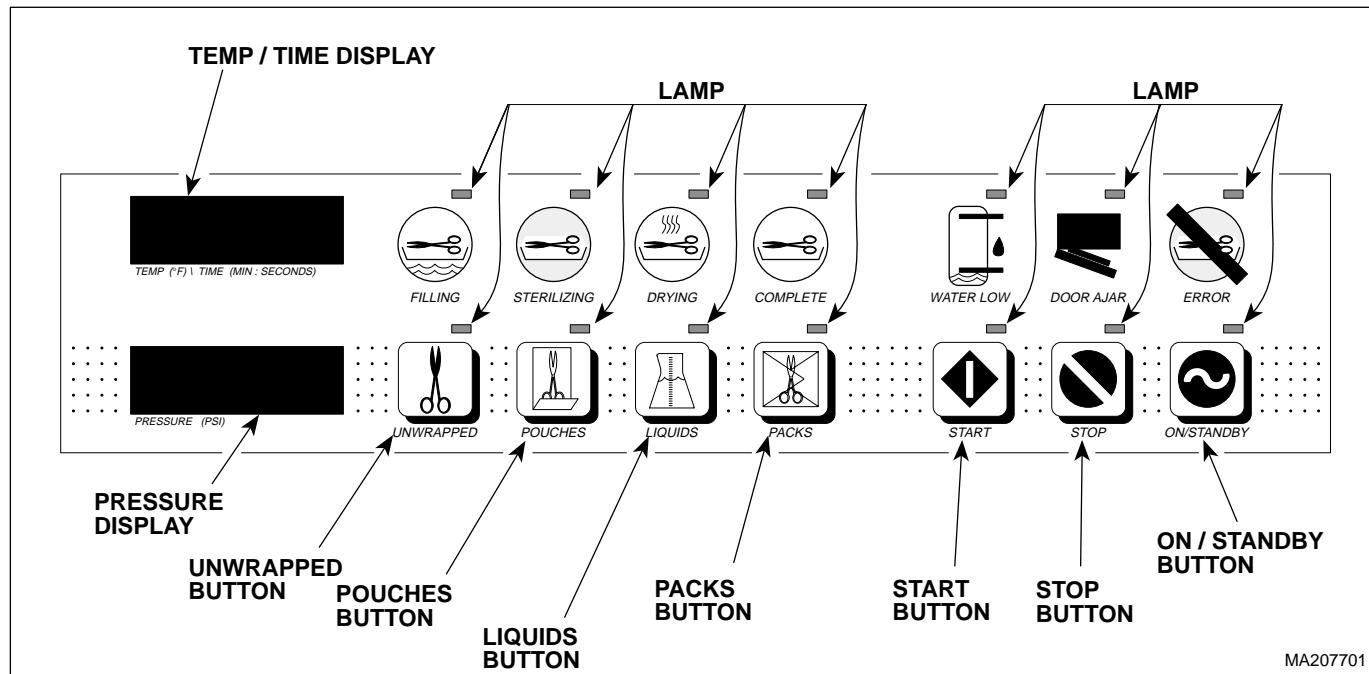

Figure 4-33. M9 / M11 Door Opening Test
(1) Fill chamber with water. [To do this, start any cycle. After chamber has filled with water, the Sterilizing LED will illuminate].
(2) Disconnect power cord.
(3) Open door.
- (4) Press and hold **STOP & POUCHES** buttons (see Figure 4-33) while plugging in power cord.
- (5) Press and release all buttons from left to right across display panel.
- (6) Close door. [This will activate all relays in the sterilizer in sequence. Pulse solenoind should automatically open door when test cycle is complete].
- (7) To rerun test, repeat steps 2 thru 6.
- (8) To verify proper operation, run a complete cycle when test is complete.